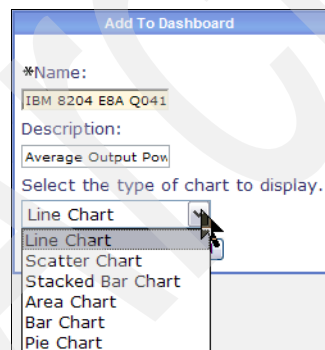

Figure 6-64 Add to Dashboard dialog box
2. You are prompted to enter the name of the monitor and the type of chart that you want to use to display the monitor on the dashboard (Figure 6-64).